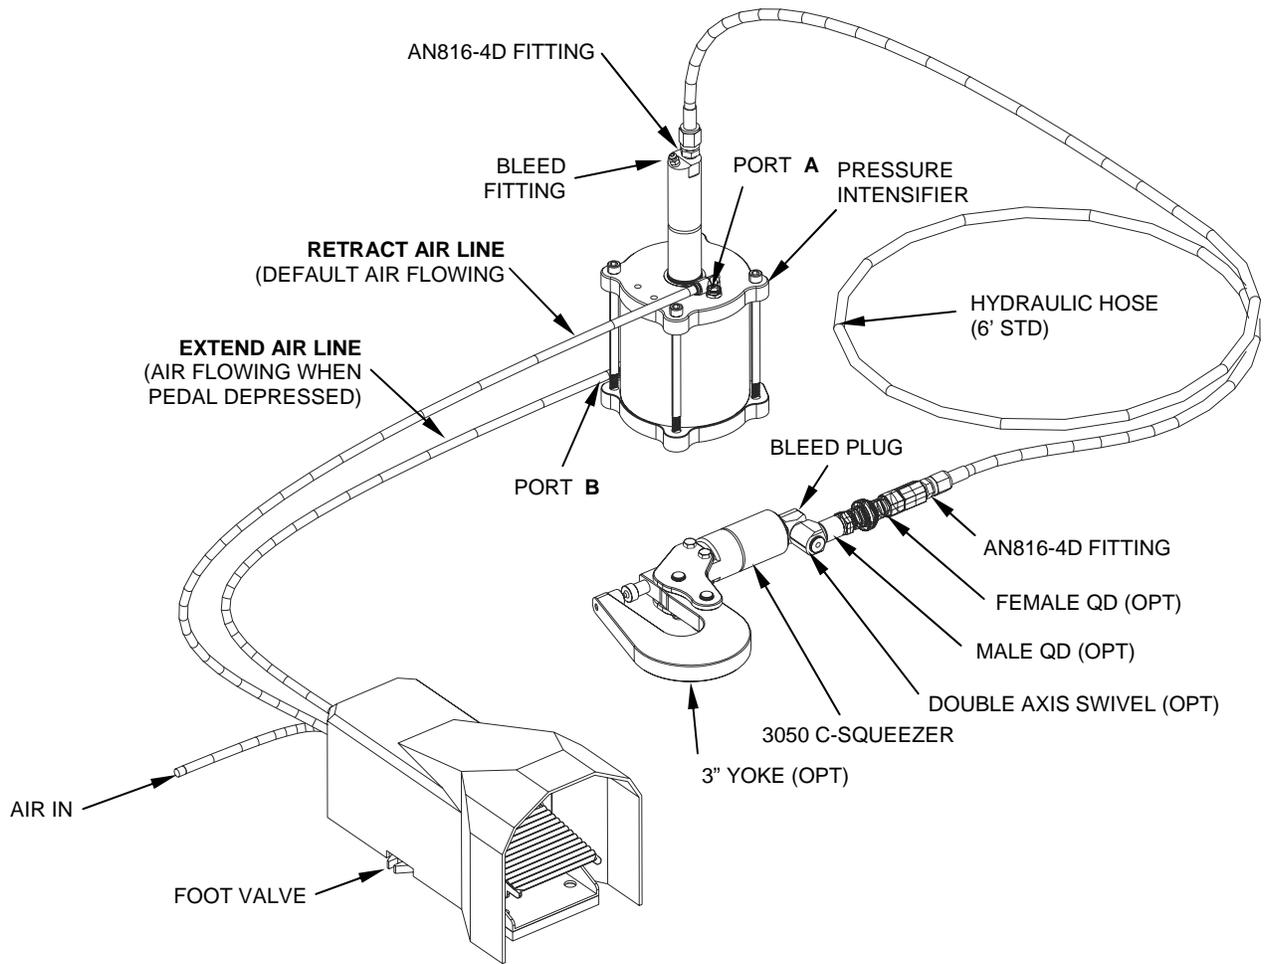

FIGURE 2 C-SQUEEZER SYSTEM
- 4.1 Per Figure 2, install an AN816-4D fluid fitting into the fluid inlet port of the C-squeezer and the outlet port of the intensifier. Use Teflon tape on the pipe threads, to ensure there are no hydraulic leaks.